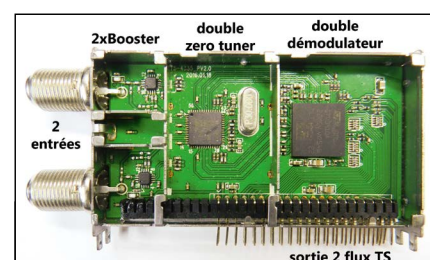

Figure 2 : le NIM tuner FTS4334L-V
*Le NIM tuner FTS4334L-V (Figure 2)